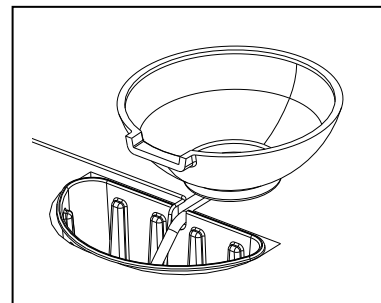

Fig. 7
7. Place the fountain on the ground behind the reservoir. Position the fountain so that the spillway is directly above the middle of the reservoir. Check to make sure the fountain is level, front to back as well as left to right. Fig. 7